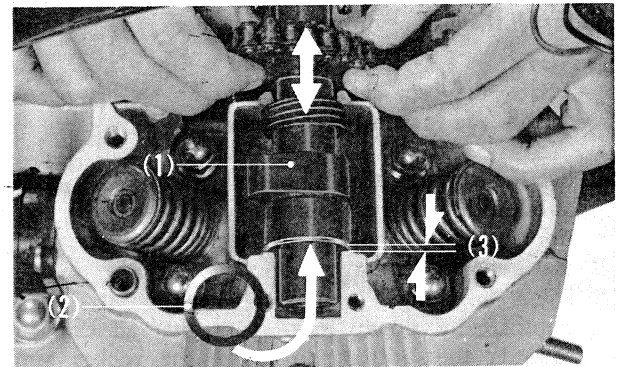

Fig. 4-33 (1) Camshaft
Insert the washers into the clearance (3) shown in Fig. 4-33. Do not insert them into the clearance on the left side.